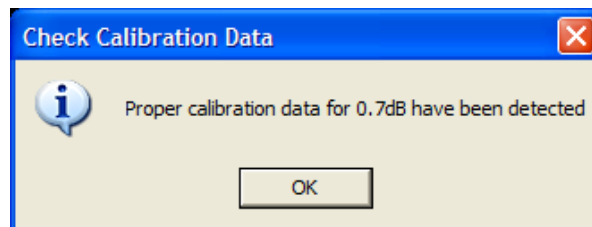

Figure 2-45: Check Calibration Data Window
7. In the *Check Calibration Data* window shown in Figure 2-45, click **OK**.